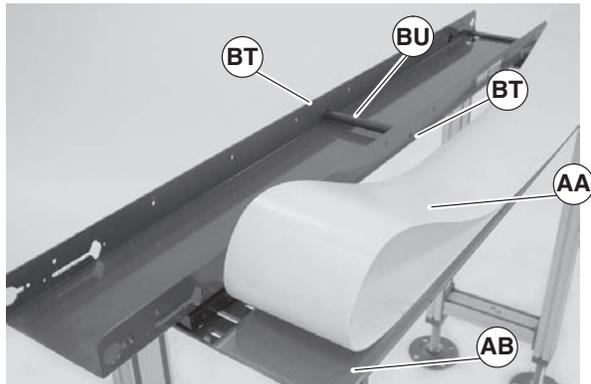

Figure 57
2. Remove screws (Figure 57, item BT) on both sides of conveyor.
1. Align holes in ends of return belt roller (BU) with countersink holes (Figure 57).
2. Install screws (BT). Ensure screws are centered in countersink hole.